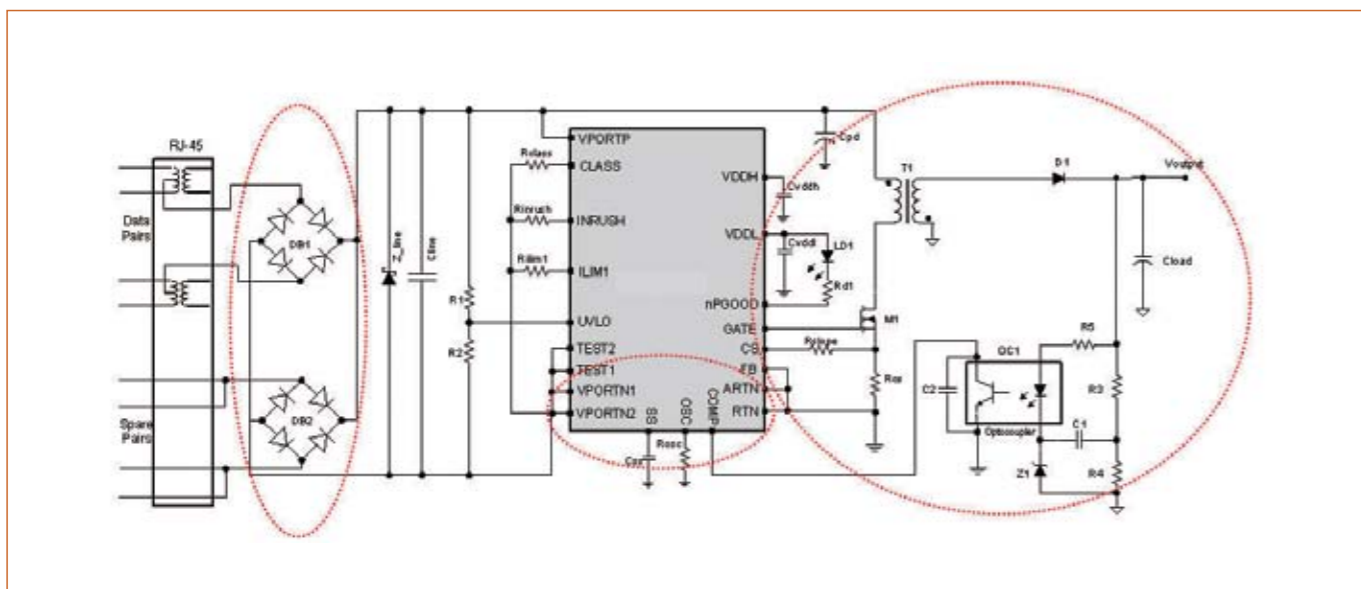

Figure 3: Classification Handshake Protocols.
Classification describes the power request protocol used between PoE enabled powered devices (PD) and power sourcing equipment (PSE). Two classifications are being considered by the IEEE standard that will enable higher power equipment deployments. These are explained in Figure 3. In the first method the reserved Class 4 handshake is applied twice. This is so-called Layer 1 handshaking and is implemented in the hardware of PSE and PD devices. Interest in the Layer 1 approach is mainly driven by the need for basic Mid-span equipment where it is desirable to avoid having to access the data channel stream.